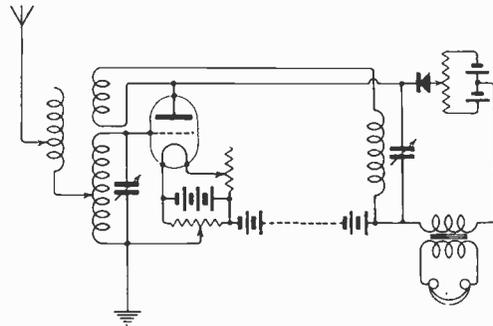

Fig. 1.
(1) The H.F. will be distinctly the better. For circuit, see Fig. 1, January 7th issue.
(2) Yes, if proportions of coil are suitable.
(1) The most efficient way to use a valve and crystal is with the valve as H.F. Amplifier followed by the crystal as Detector. For circuit see diagram (Fig. 1).